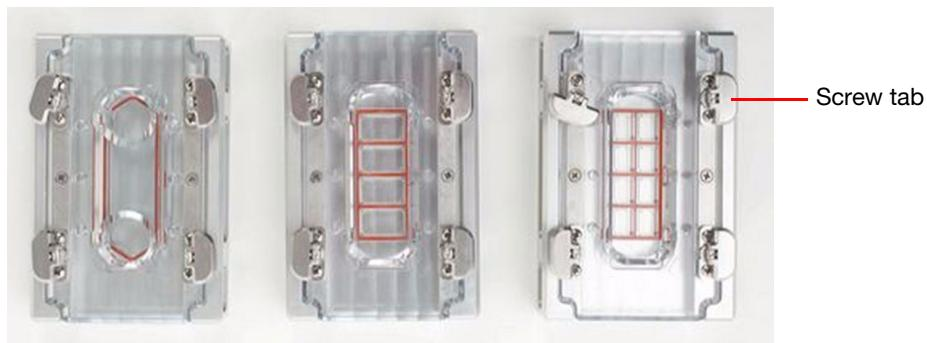

Figure 12 SOLiD™ Deposition Chambers: 1-well, 4-Well, and 8-well.
3. Place the SOLiD™ Opti Slide Carrier assembly into SOLiD™ Deposition Chamber base, then place the appropriate SOLiD™ Deposition Chamber lid on top (see Figure 12).